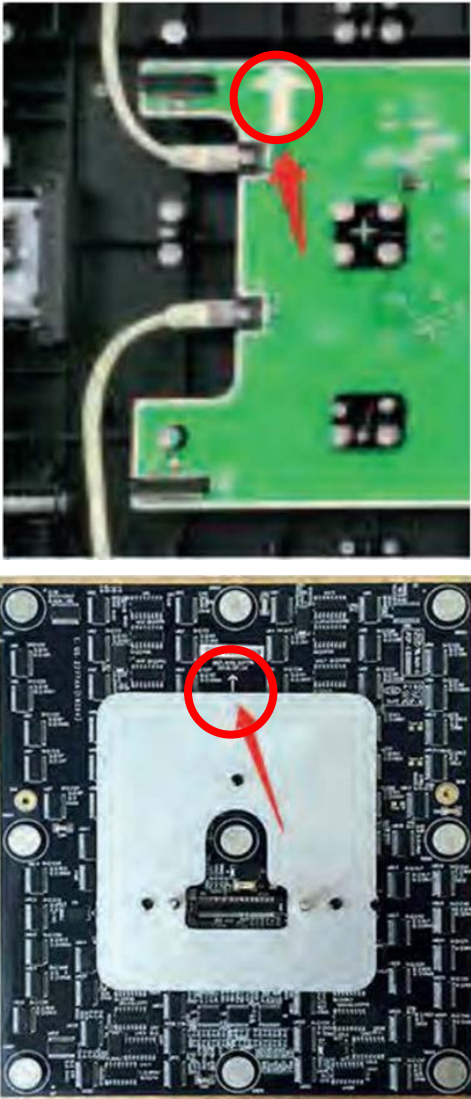

Figure 40
- 3. Orient the module with the receiving section of the panel so that the arrows shown in Figure 40 are pointed in the same direction..